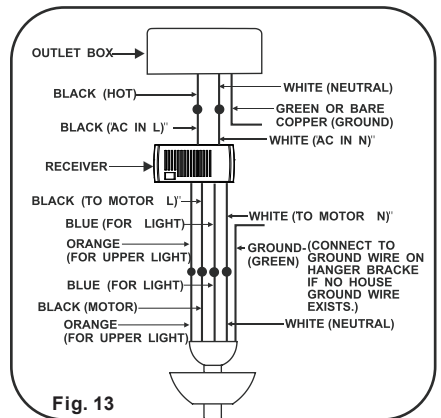

Fig. 13
NOTE: If your ceiling fan features an UP Light: Connect the ORANGE wire from the fan to the ORANGE wire marked " For Up Light " from the Receiver. Otherwise disregard this step and proceed to secure all wire connections with the plastic wire nuts provided.(Fig.13)
Step 3. Receiver to House Supply Wires Electrical connections: Connect the WHITE wire (Neutral) from the outlet box to the WHITE wire marked "AC IN N" from the receiver. Connect the BLACK wire(Hot) from the outlet box to the BLACK wire marked "AC IN L" from the receiver. Secure all wire connections with the plastic wire nuts provided.(Fig.13)
Step 4. If your outlet box has a GROUND wire (Green or Bare Copper) connect this wire to the Hanger Ball and Hanger Bracket Ground wires. If your outlet box does not have a Ground Wire, then connect the Hanger Ball and Hanger Bracket Ground Wire together. Secure wire connection with the plastic wire nut provided.(Fig. 13)